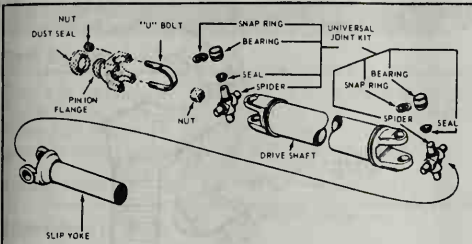

Fig. 21 One-piece driveshaft with a slip yoke
• See Figures 21, 22, 23, and 24